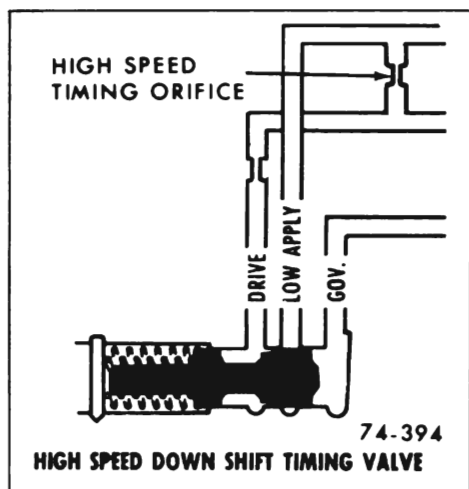

Figure 74-22 - High Speed Downshift Timing Valve - Third Stage Regulation
At higher car speeds governor pressure on the end of the valve increases to overcome the force of the two (2) springs. The valve will then move over to the retaining pin. See Figure 74-22. This prohibits oil from passing through the valve and allows it to pass through the high speed timing orifice only before flowing through the orifice at the low servo to apply the low band.